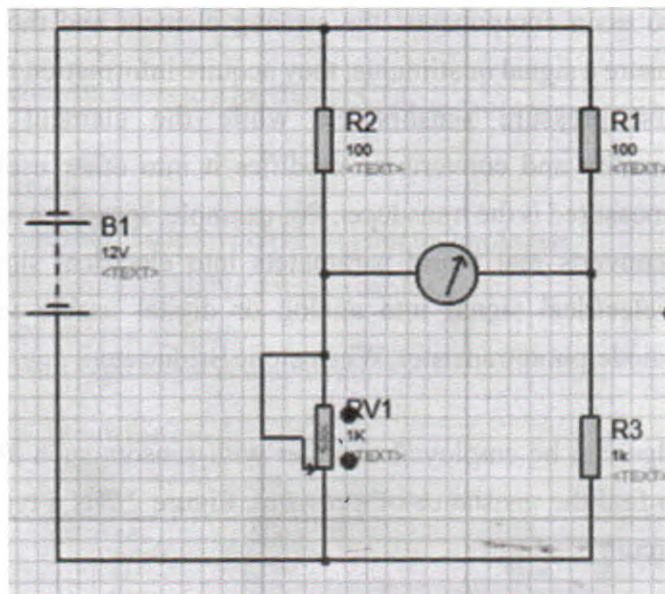

Figure 2.3: Measurement of an Unknown Resistance
1. In Figure 2.3, calculate V_{R1} that will ensure null deflection of the galvanometer. Derive a mathematical expression to balance the bridge.
- i. Carefully connect the circuit in Fig. 2.3 on your breadboard.